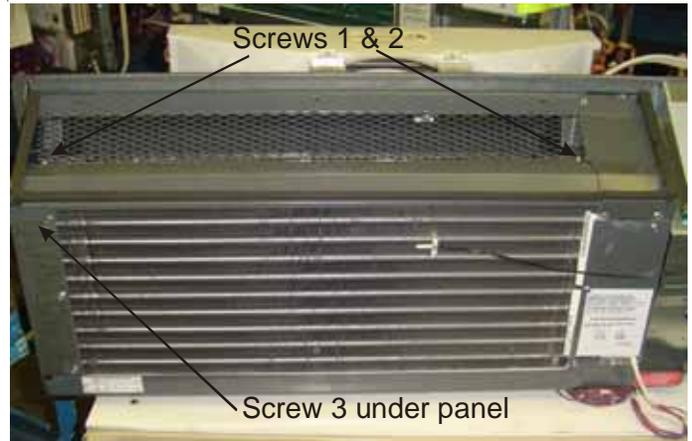

Figure 2
5. Lift the cut off panel by unscrewing three (3) screws holding the cut off panel to the (indoor) evaporator coil and lift upward (Figure 2).